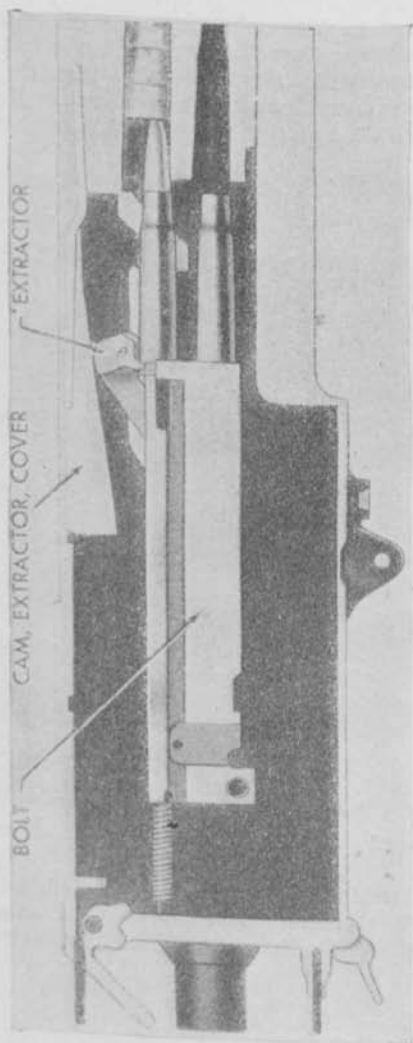

FIGURE 48.—Extractor feeding new round into T-slot on bolt.
c. As the bolt moves to the rear the cover extractor cam forces the extractor down, causing the cartridge to enter the T-slot in the bolt, as shown in figure 48.